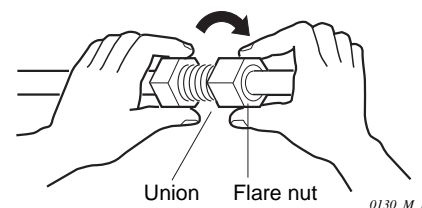

Fig. 7-5
- (3) For proper connection, align the union tube and flare tube with each other, then screw in the flare nut lightly at first to obtain a smooth match. (Fig. 7-5)